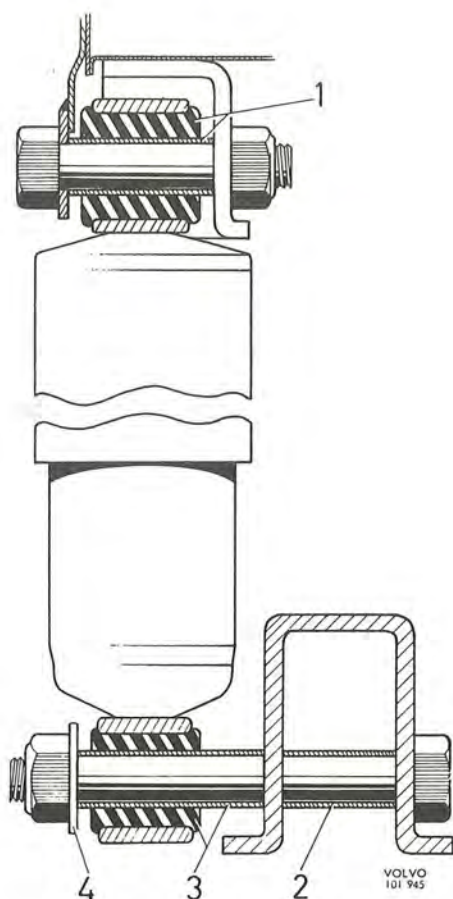

Fig. 7-9. Attachments, rear shock absorber
The rear shock absorber attachment (Fig. 7-9) consists of eyelets provided with rubber bushes (1 and 3) which cannot be dismantled. These absorbers are bolted at the top to the rear side-members and at the bottom to the support arms.
2. When fitting make sure that the spacing sleeve in the support arm has not been removed (2, Fig. 7-9). Fit and tighten the shock absorber. Fit the wheel and wheel nuts. Lower the vehicle. Put on the hub cap.
N.B. Check that the spacing sleeve and washers are placed correctly, see Fig. 7-9. Remove the blocks from under the vehicle and lower it.